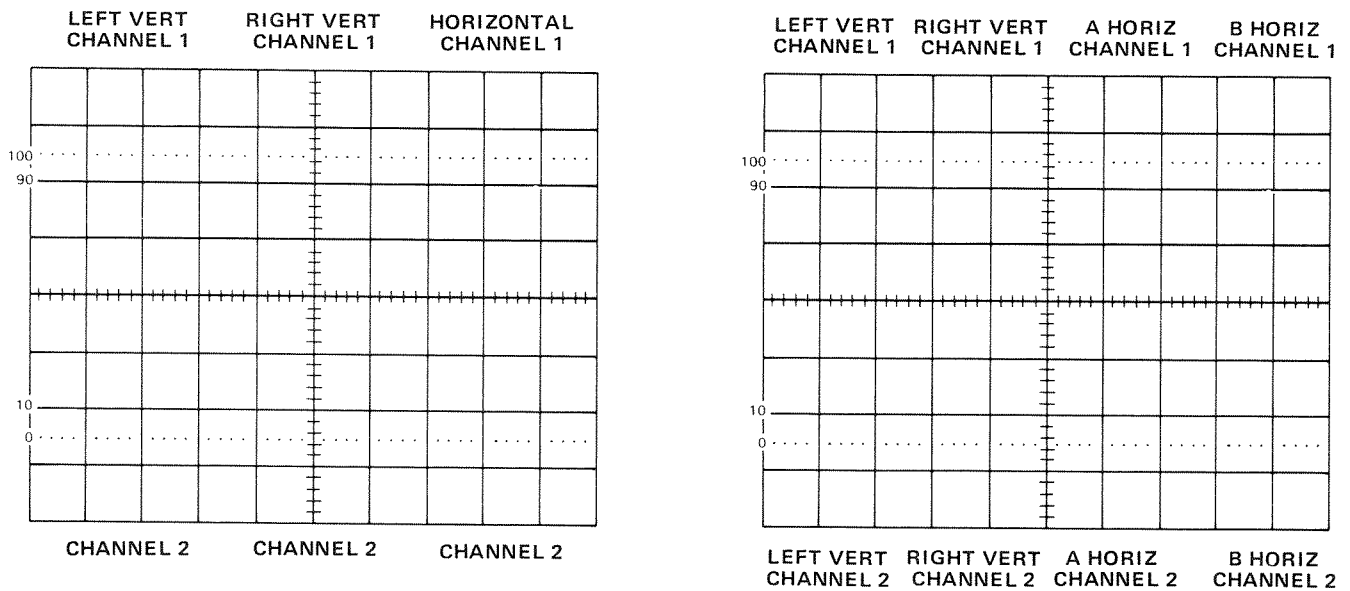
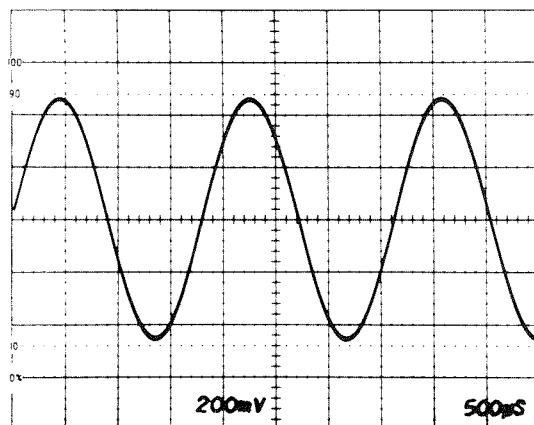

Figure 3-24. Location of readout words on the crt identifying the originating plug-in unit and channel (one complete frame shown).
Figure 3-26. Typical readout display where only channel 2 of the Right Vertical and Horizontal units is displayed.
Frame—A frame is a display of all words for a given operating mode and plug-in combination. Up to ten character words (six words in 3-compartment mainframes) can be displayed in one frame. Figure 3-24 shows the position of each word in a complete frame.
Up to eight words (six words in three compartment mainframes) of readout information can be displayed on the crt. The position of each word is fixed and is directly related to the plug-in unit from which it originated. Figure 3-24 shows the area of the graticule where the readout from each plug-in unit is displayed. Notice that Channel 1 of each plug-in unit is displayed within the top division of the crt and Channel 2 is displayed directly below within the bottom division. Figure 3-26 shows a typical display where only Channel 2 of the Right Vertical and the Horizontal units is selected for display.
The Format Generator stage provides the output signals to the vertical and horizontal deflection systems of the instrument to produce the character display. The binary Channel Address Code from the Channel Counter stage is connected to this stage, so that the display from each channel is positioned to the area of the crt associated with the plug-in and channel originating the word (see Figure 3-24). The positioning current or decimal point location current generated by the Decimal Point Logic and Character Position Counter stage is added to the Horizontal (X) signal at the input to the Format Generator stage to provide horizontal positioning of the characters within each word. The X- and Y-Readout signals are connected to the Horizontal Amplifier and Vertical Amplifier through the X- and Y-Buffer stages.